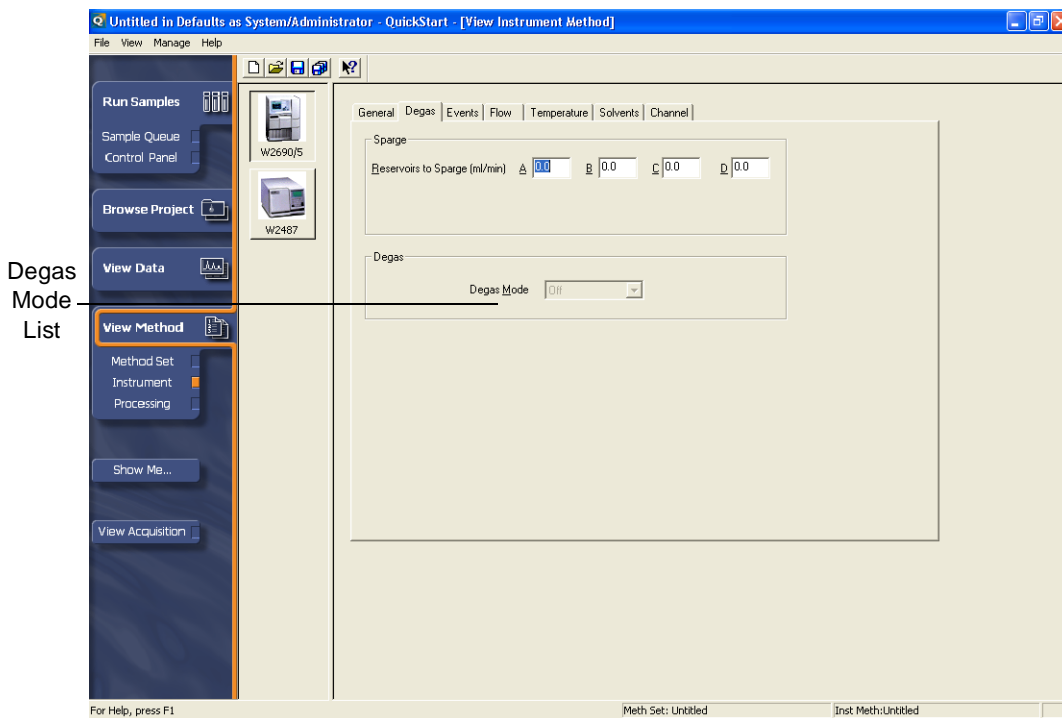
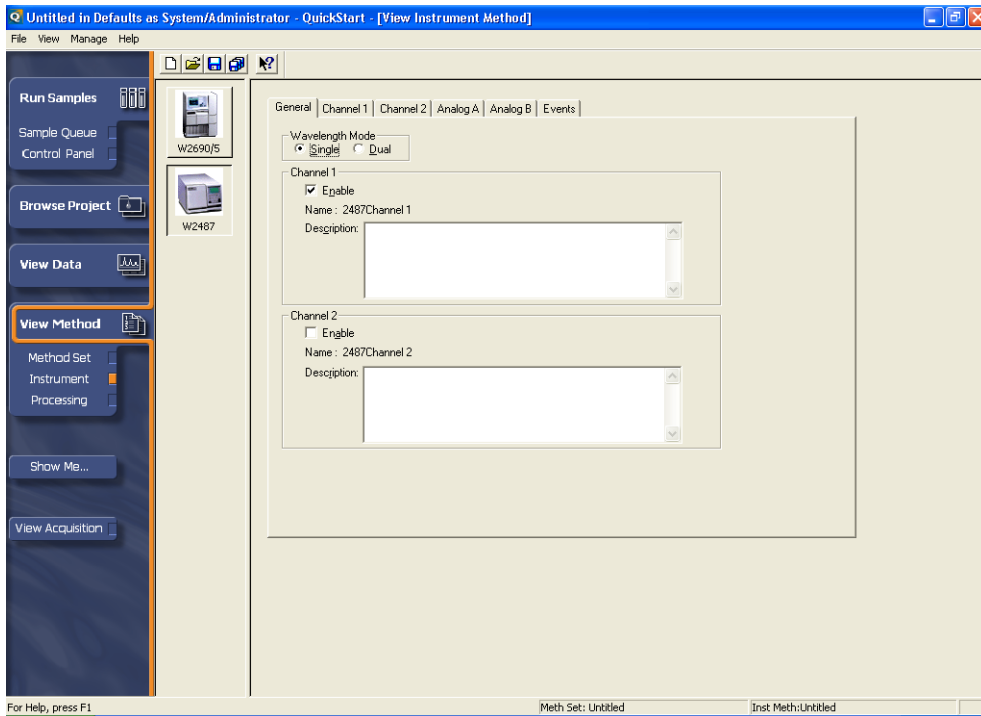
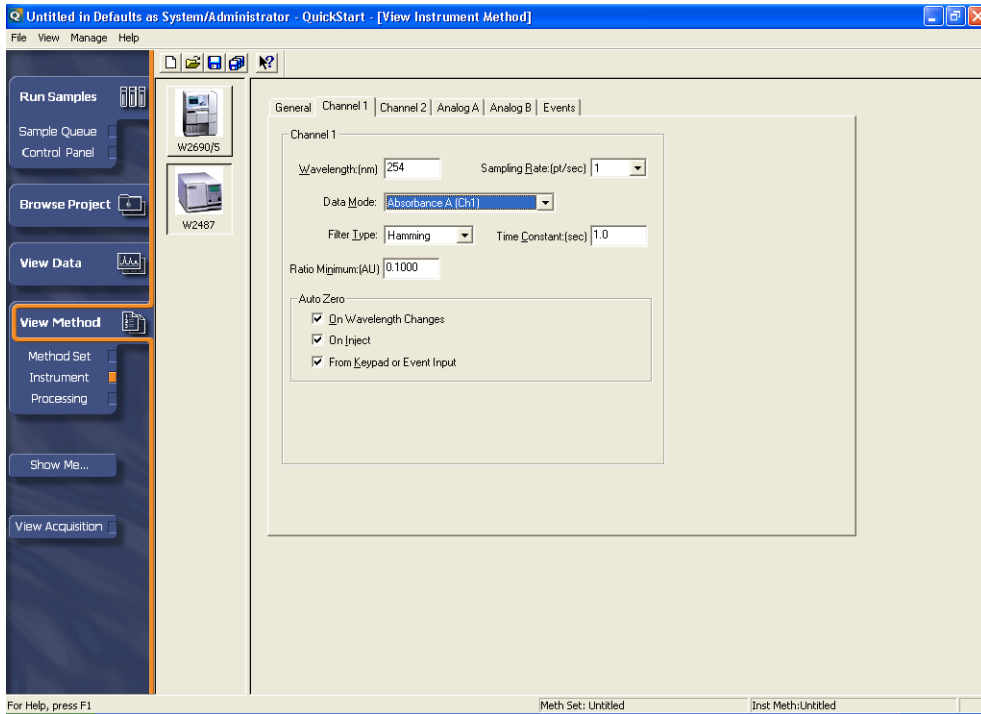

Figure 4-5 View Instrument Method, 2690/2695, Degas Tab
Figure 4-6 Instrument Method Editor, 2487 Detector, General Tab
Figure 4-7 Instrument Method Editor, 2487 Detector, Channel 1 Tab
3. Click the **Degas** tab. The Degas tab appears (Figure 4-5).
5. Click the icon of the 2487 Detector in the sidebar of the View Instrument Method window (**W2487** icon in Figure 4-6). The General tab appears (Figure 4-5).
6. Ensure that **Enable** in the Channel 1 section is selected (Figure 4-6), accept the other default settings, then click the **Channel 1** tab. The Channel 1 tab appears (Figure 4-7).